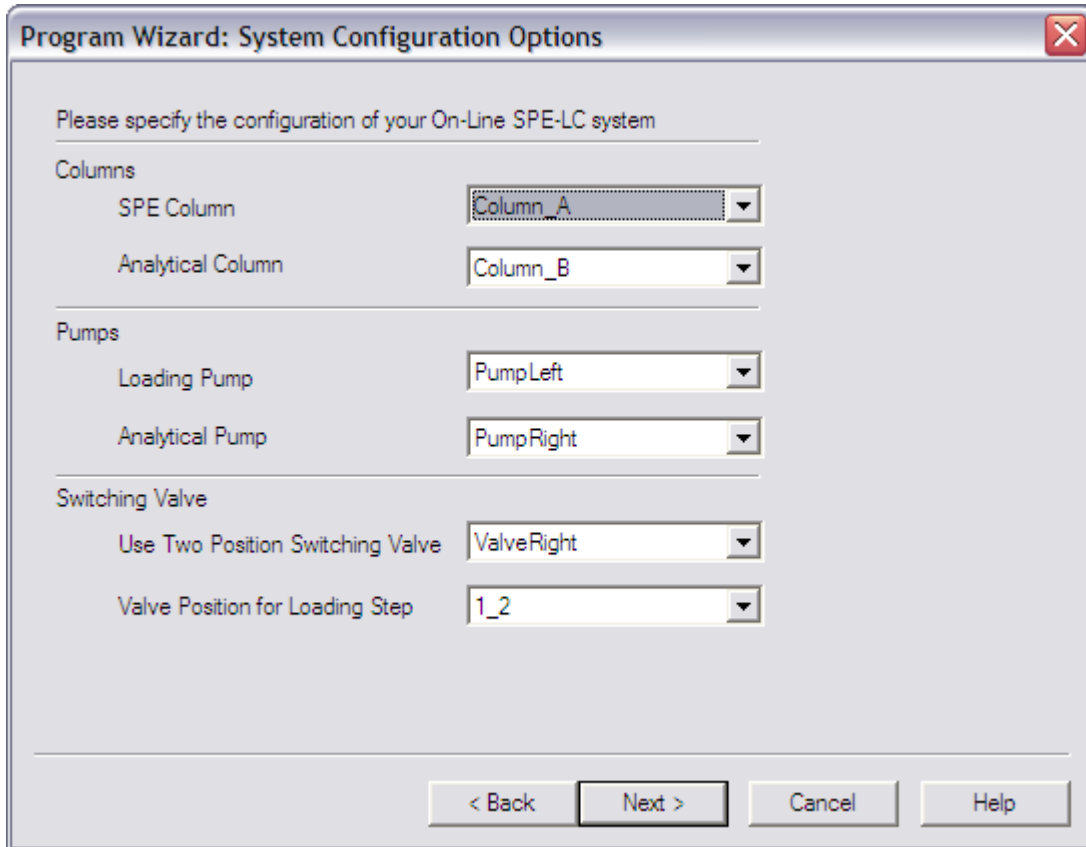

FIGURE 6-10: Program wizard – On-Line SPE-LC system configuration.
- The next step in the wizard has the option to specify the configuration of the On-Line SPE-LC system. The settings for pumps and valve in FIGURE 6-10 are applicable if the instrument is setup as described in the *Quick Installation Guide*. The **SPE Column** and **Analytical Column** are specified as Column_A or Column_B depending on how the column identification chips are inserted in the TCC-3100.
- The next step in the wizard (not shown) has the option to specify the mobile phase names, pressure limits, flow rate and maximum flow acceleration/deceleration for the **Loading Pump** (The left pump if the system configuration is made as described in the *Quick Installation Guide* and set up according FIGURE 6-10).
8. The next step (not shown) allows to specify the mobile phase names, pressure limits, flow rate and maximum flow acceleration/deceleration for the **Analytical Pump** (The right pump if the system configuration is made as described in the *Quick Installation Guide* and set up according FIGURE 6-10).